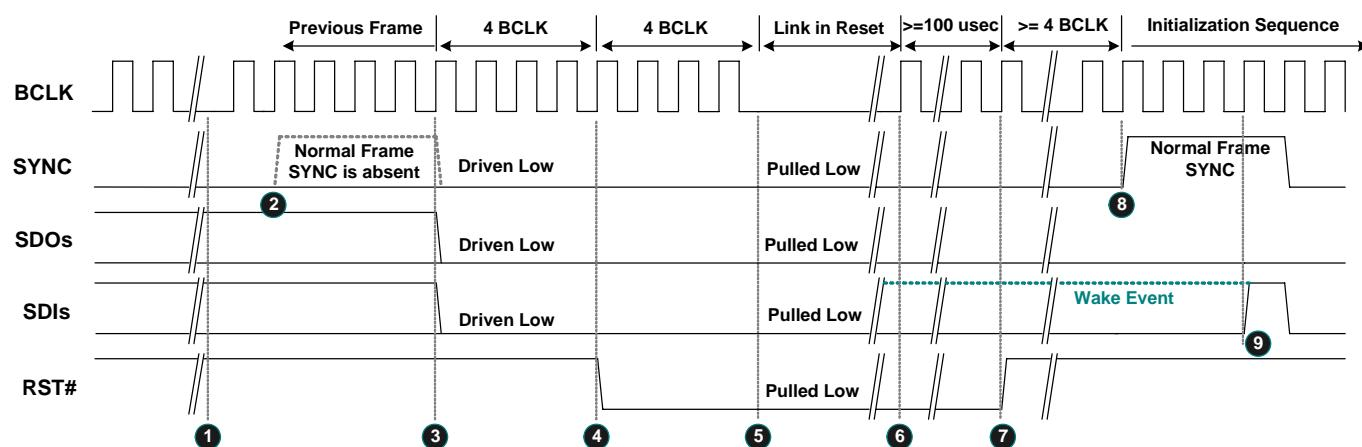

Figure 11. Link Reset Timing
3. Software initiates power management sequences. Figure 11, page 19, shows the ‘Link Reset’ timing including the ‘Enter’ sequence (❶~❸) and ‘Exit’ sequence (❹~❻)